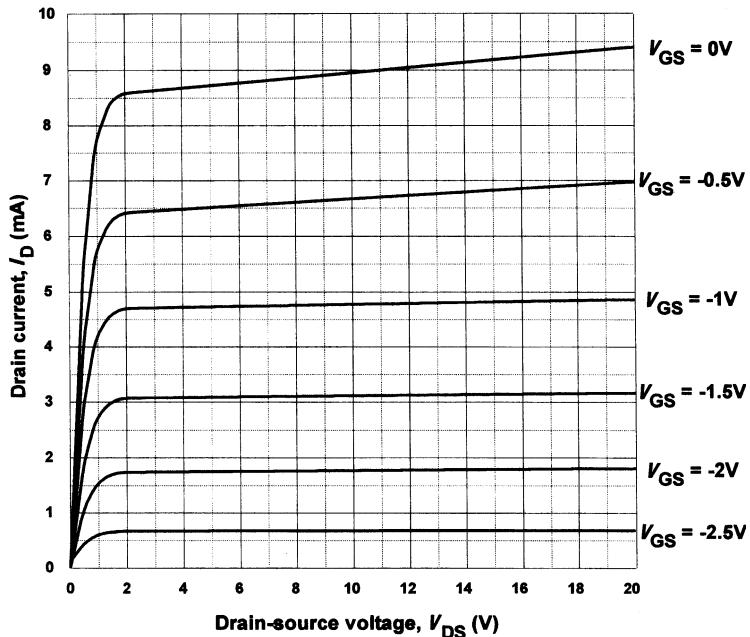

Figure A2.18
38. The output characteristics of a field effect transistor are shown in Fig. A2.18. If the transistor operates with  $V_{DD} = 18 \text{ V}$ ,  $R_L = 3 \text{ k}\Omega$  and  $V_{GS} = -1.5 \text{ V}$  determine: